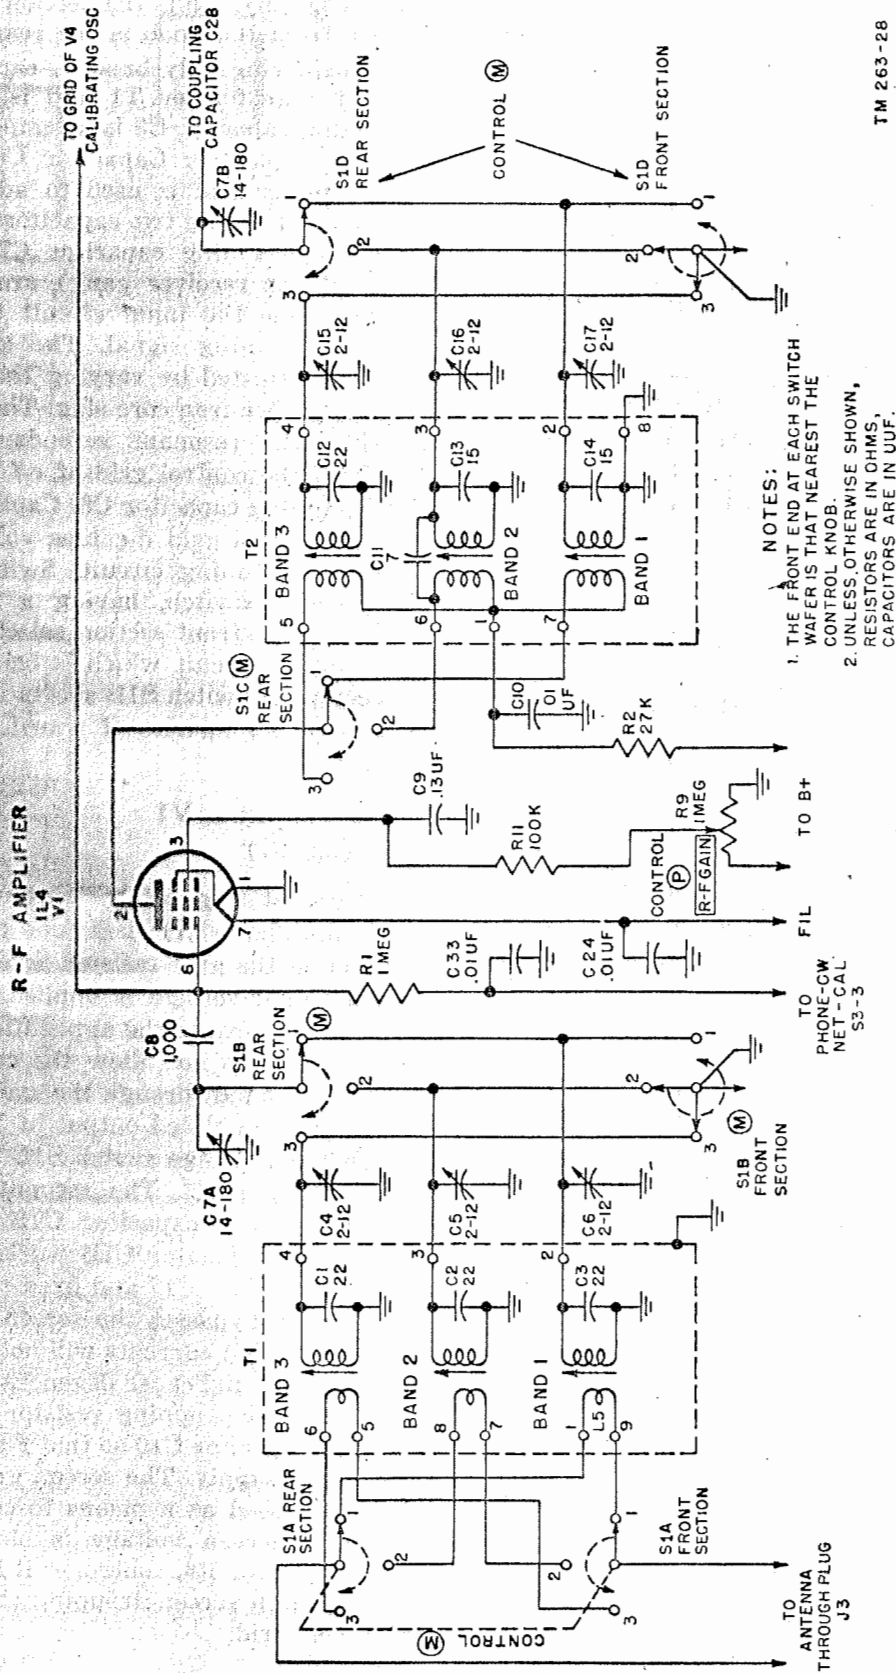

Figure 57. R-f amplifier, simplified schematic.
82. R-F Amplifier V1 (fig. 57)